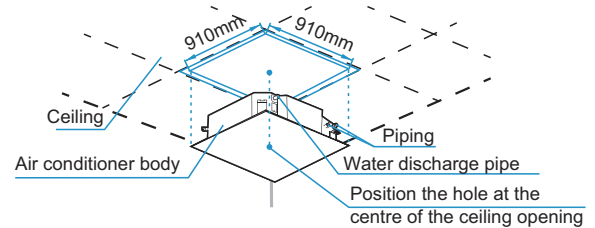

Figure 3.5
1. Drill 910x910mm square holes into the ceiling based on the layout of the installation board (accessory 4). See Figure 3.5.